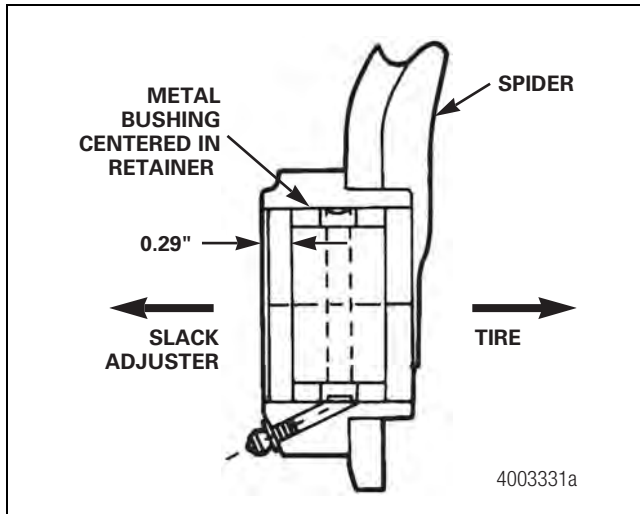

Figure 11.34
- B. For metal bushings, drive a metal bushing into the retainer bore until it is centered in the retainer as detailed below. Figure 11.34.